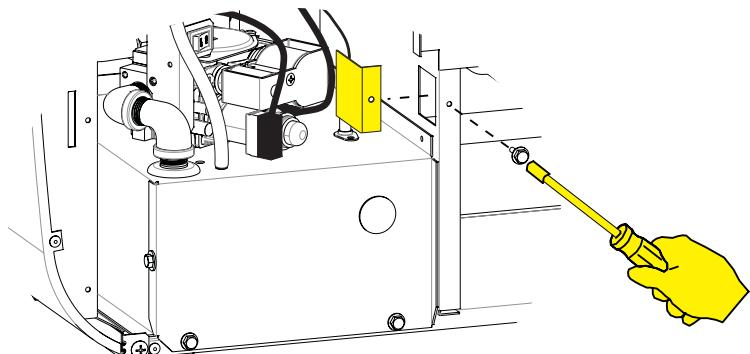

Figure 8
10. Remove the hex head screw securing the partition panel block plate with the 5/16 nut driver and remove the block plate. Discard the partition panel block plate and retain the screw. **See Figure 8.**